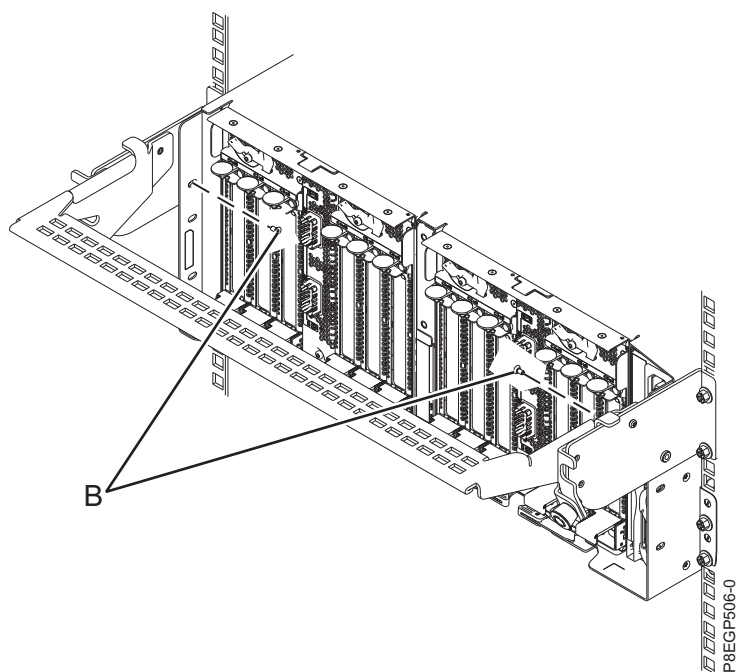

Figure 13. Applying the securing screws
12. To secure the drawer to the rack, apply the two securing screws (**B**), as shown in Figure 13.